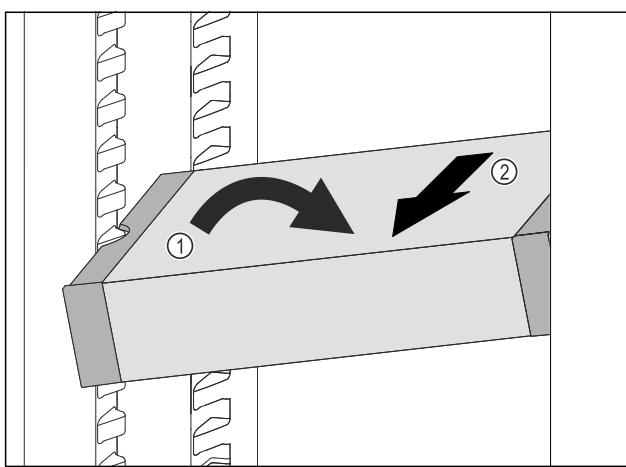

Fig. 131
- ▶ Set VarioSafe in refrigerator compartment at an angle. Fig. 131 (1)
- ▶ Take VarioSafe out to the front. Fig. 131 (2)